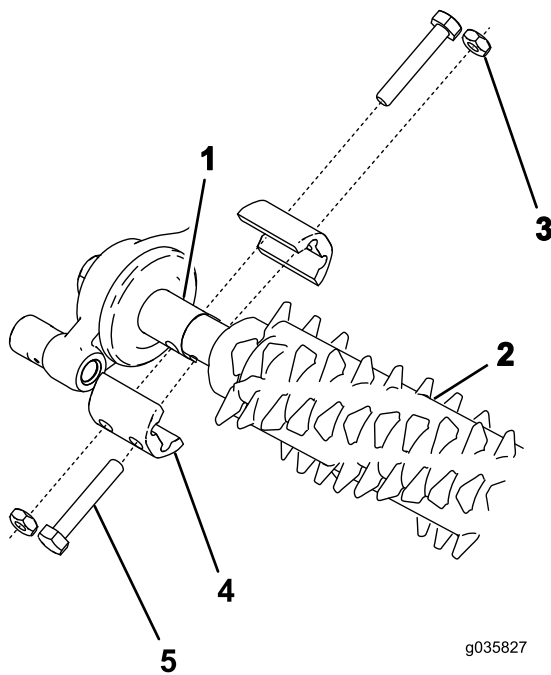

Figure 14
2. Line up the groomer assembly with the drive-stub shafts of the groomer drive box and idler assembly (Figure 14).
3. Secure the groomer to the machine as shown in Figure 14 using 4 bolts (1/4 x 1-1/2 inches), 4 jam nuts, and 4 shaft clamps.